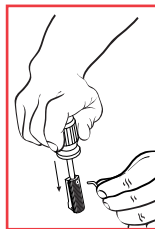

Fig. 15-2
3. While continuing to depress the ILS spring cap, remove the takedown pin. (Fig. 15-2)